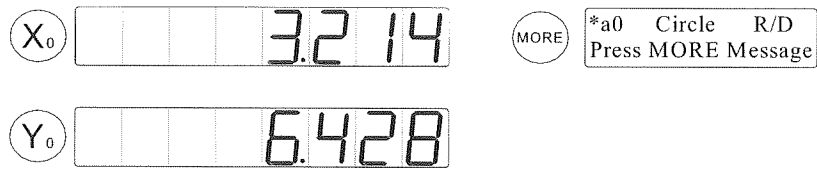

Figure 2-84
b. Press the  or  key, find the feature a0, then press the  key to select this feature. The feature a0's message and a checkmark are displayed as in figure 2-84.